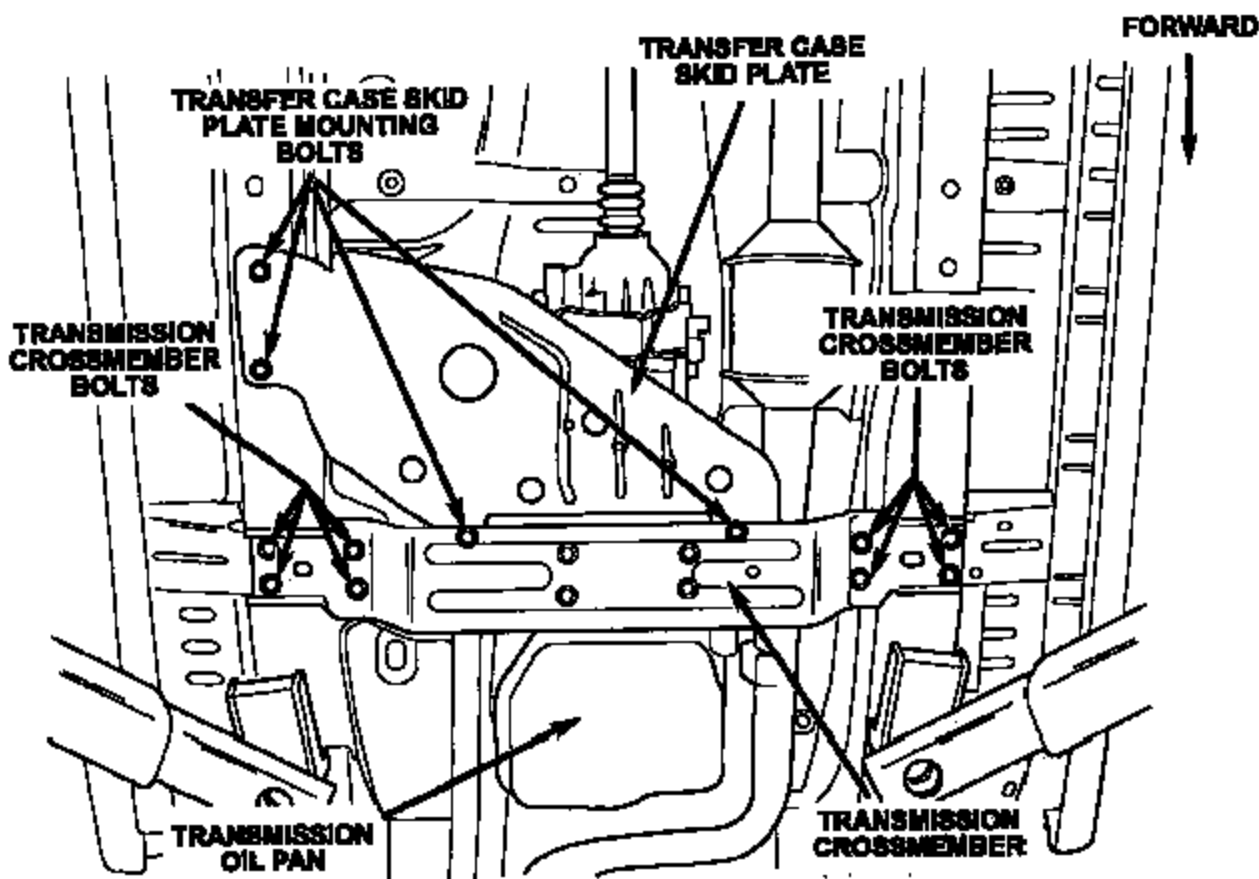
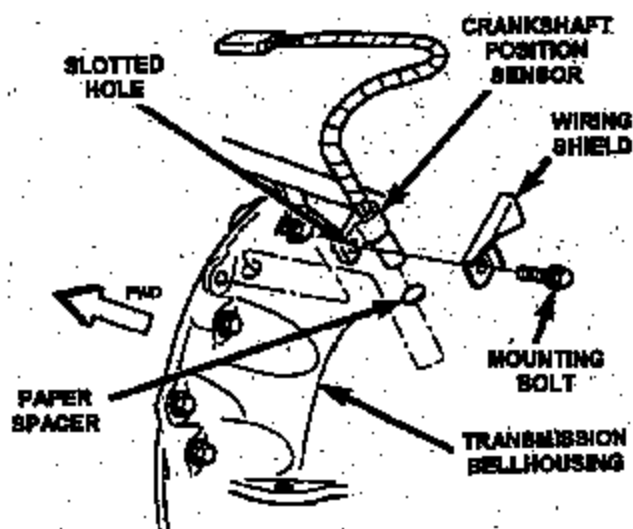

Figure 1
Figure 2
7. If equipped, remove the transfer case skid plate (Figure 1).
8. Remove the eight (8) transmission crossmember bolts (Figure 1).
9. Using the transmission jack, lower the rear of the transmission approximately three (3) inches.
10. Using a 7/16" (11mm) swivel socket and a 36" long 3/8" drive extension, remove the crankshaft position sensor mounting bolt and wiring shield from the transmission bellhousing (Figure 2).
14. Position the new crankshaft position sensor into the transmission bellhousing and install the wiring shield and sensor mounting bolt finger tight (Figure 2).
18. Using the transmission jack, raise the transmission back into position and install the transmission crossmember bolts. Tighten the crossmember bolts to 30 ft. lbs. (41 N·m) (Figure 1).
20. If equipped, install the transfer case skid plate. Tighten the bolts to 30 ft. lbs. (41 N·m) (Figure 1).